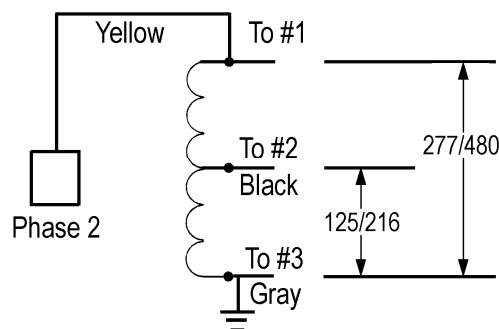

Figure 2.3 - Autotransformer Wire Connection
- B. The loose wires must be passed through an opening in the network protector casing tapped for a 1/2-inch NPT so that the seal is maintained properly. The 17 color-coded wires entering the network protector are connected as follows (see Figure 2.3):
Table 2.3 Material List, Refers to Figure 2.3